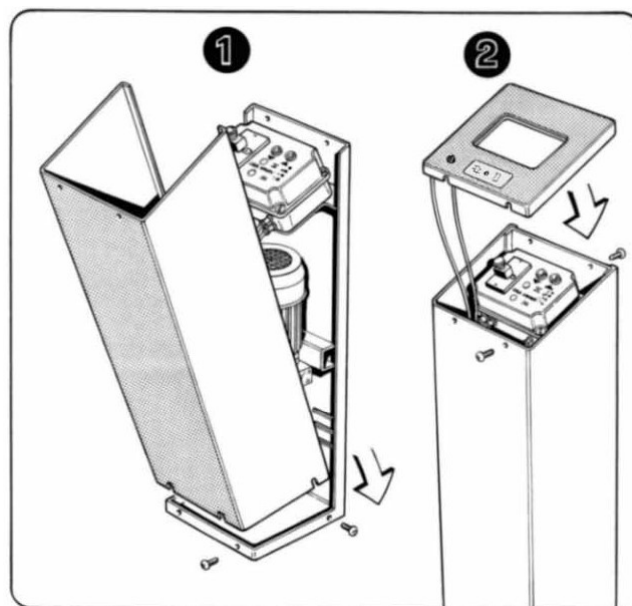

FIG 3b
- Unscrew the screws on the control console using the appropriate setscrew wrench, remove the metal casing from the control console and the hydraulic unit, and position it in a safe place(Fig. 3b).
Proceed to the final positioning of the hydraulic unit control console by proceeding as follows (Fig. 3b PONYBENCH):